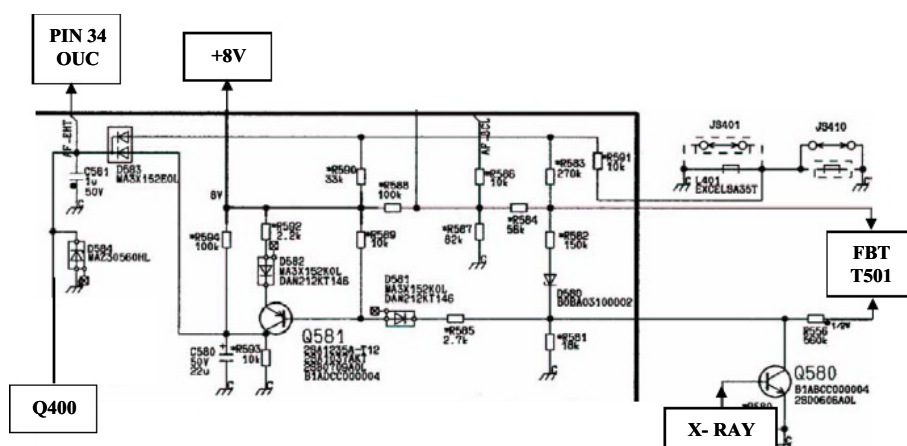

Fig 6.0
3. This circuit will function whenever X-ray stage starts operation. The X-ray voltage will trigger Q580 ON → Q581 ON → D583 ON → EHT/ PROTECTION input (Pin 34) pulled HIGH → UOC OFF. [Fig 6.0]